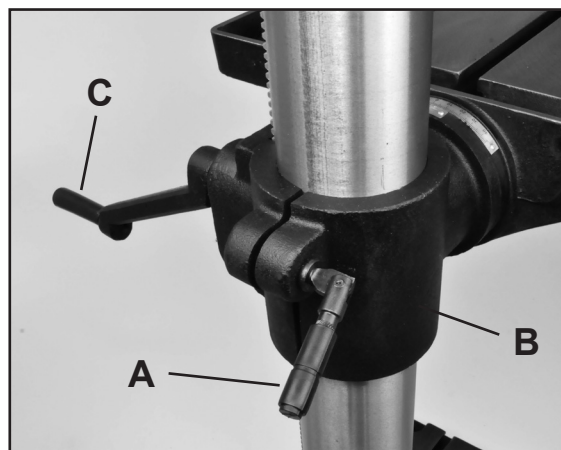

Figure 16
1. Loosen the column lock handle (A-Fig. 16) on the table support bracket (B-Fig. 16).
2. Turn the crank handle (C-Fig. 16) to raise or lower the table to the desired height.
3. Tighten the column lock handle (A-Fig. 16).